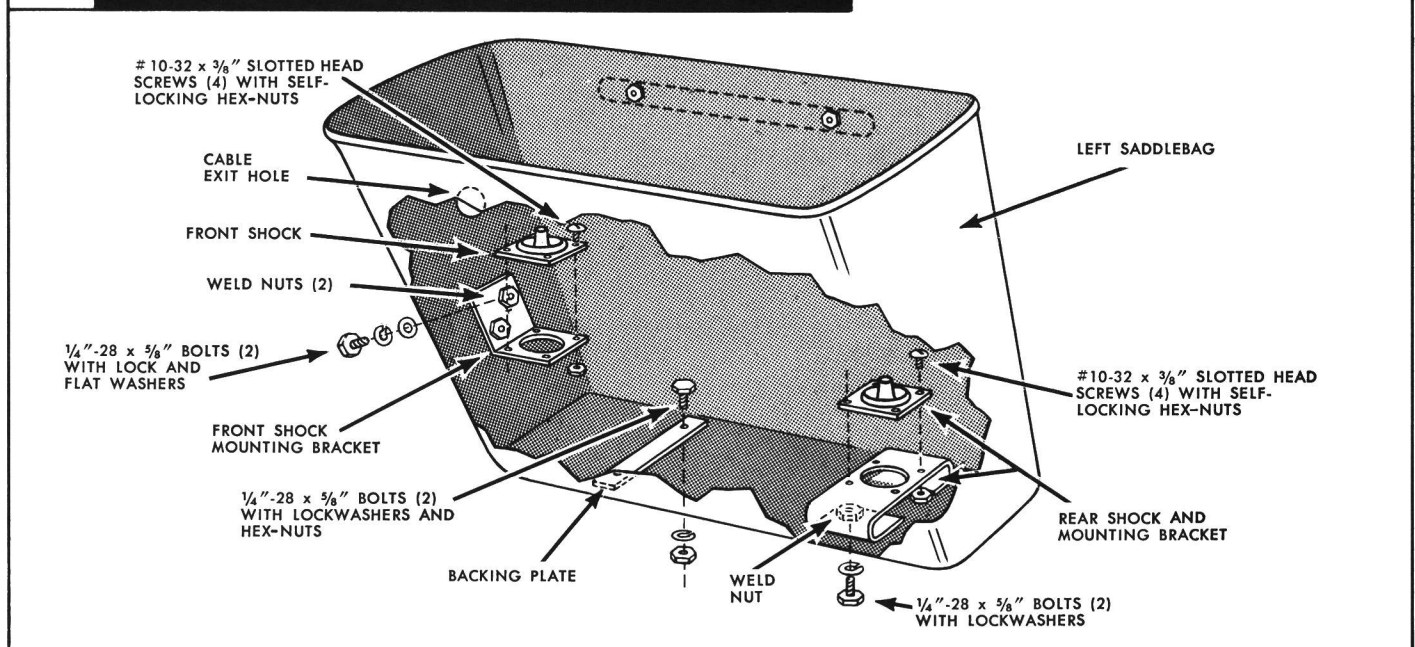

FIGURE 2 — FRONT AND REAR SHOCK INSTALLATION
b. Install the front and rear shocks and associated mounting brackets as shown in Figure 2. (Offset mounting holes for the rear shock mounting bracket should be toward the front of the saddlebag.)